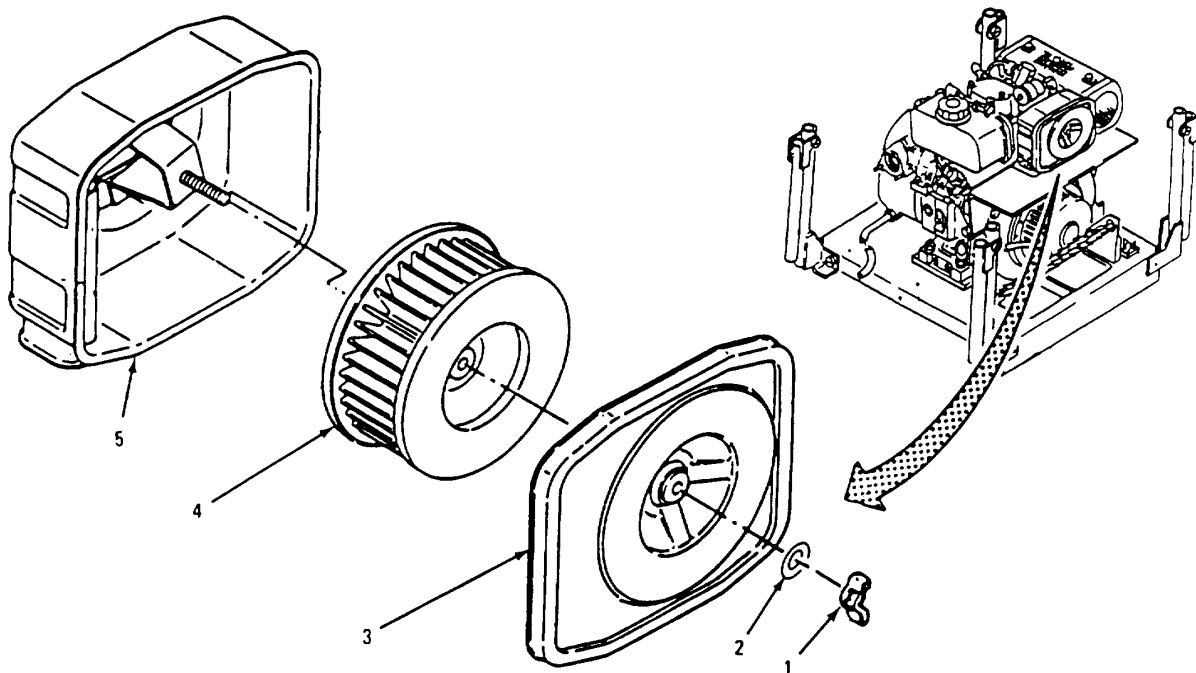

Figure 3-1. Replacing Air Filter Element
a. Removal. (Refer to Figure 3-1)
- (1) Loosen and remove wing nut (1) and washer (2).
- (2) Detach air cleaner housing cover (3).
- (3) Remove air filter element (4).